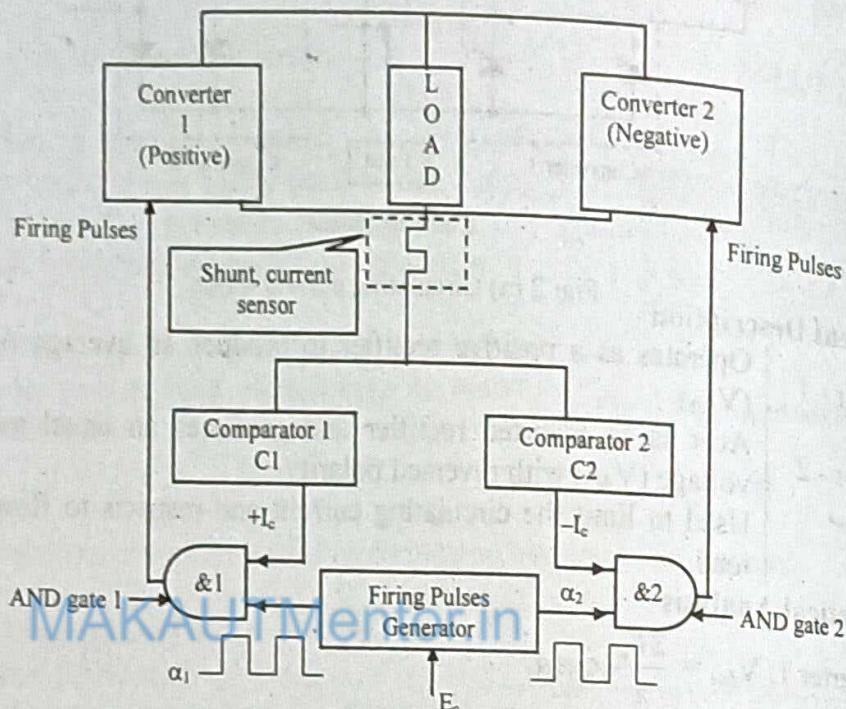

Fig: 3 Scheme for converter selection
**Step 1:** Assume that converter 1 is conducting (figure 3) and load current is sensed by the current sensor to give a positive voltage level.